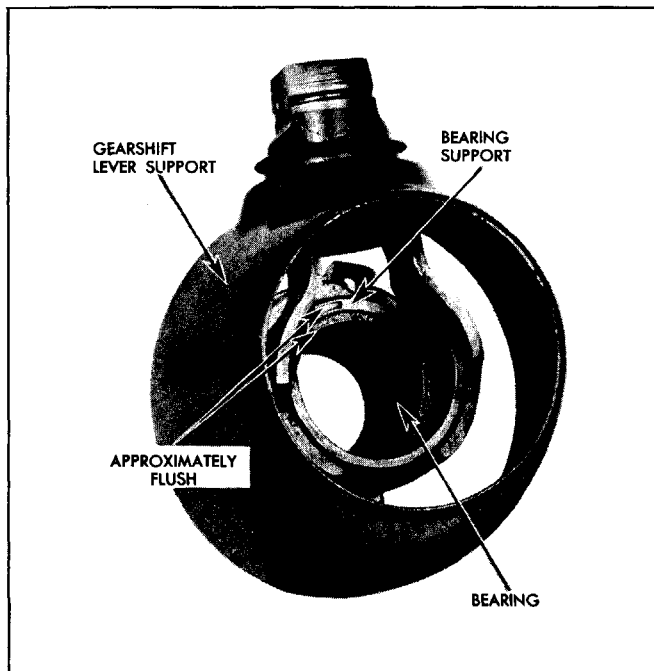
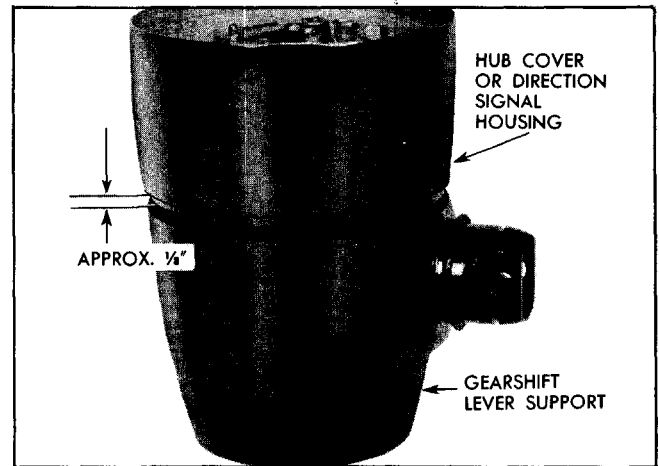

Fig. 7-15 Assembly of Bearing Support and Lever Support
Fig. 7-16 Clearance Between Lever Support and Directional Signal Housing
9. Lubricate screw threads in bearing support with Lubriplate 105 and screw bearing support (die casting) on bearing in gearshift lever support until bearing and support are approximately flush at bottom end (Fig. 7-15) with gap in bearing support flange toward gearshift lever support. This adjustment determines clearance between gearshift lever support assembly and steering wheel hub cover or direction signal housing. Clearance should be approximately $\frac{1}{8}$ " (Fig. 7-16.) Set hub cover or direction signal housing on bearing support to check clearance before proceeding. If clearance is improper, turn bearing support (die casting) one complete turn in proper direction to correct clearance and recheck.